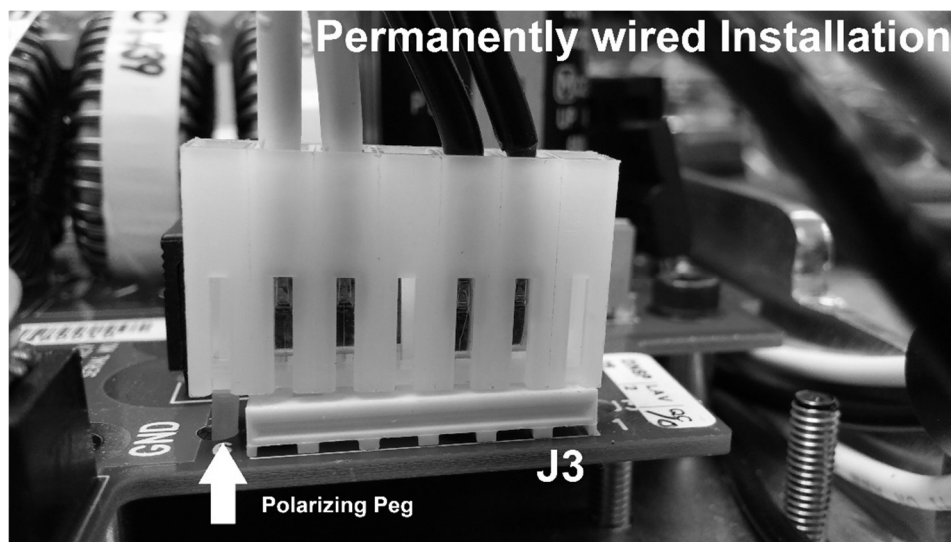

Figure 27
5. The connector from the power switch harness at J3 of the Power Supply Control Board should be left in the default position as shown in *Figure 27*.